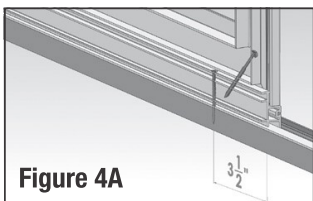
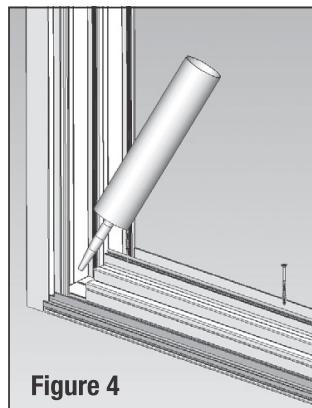
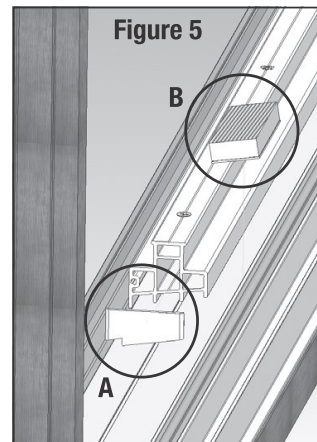

Figure 4A
Figure 4
Figure 5
- 4 Fix the panel supports, drain hole cove with flap towards the interior, using 4 x #8 - 2" screws. Add a bead of sealant along the edge of the support where it meets the frame. See **Figure 4**. Pay attention to the placement of the screw for the fixed-panel support at the center of the door. See **Figure 4A**. Install the frame filler on the end of the panel support, 3-1/2" from the edge. See **Figure 5-A**.
Install the block sill for the operating panel. Fix the block sill with the #6 - 1" screw. See **Figure 5-B**.